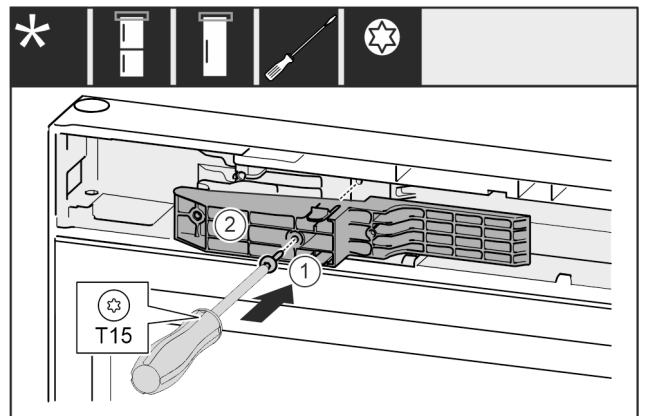

Fig. 59 *
- ▶ 将把手侧的适配件 Fig. 59 (1)插入凹槽。*
- ▶ 将螺钉 Fig. 59 (2)用螺丝刀拧紧。*